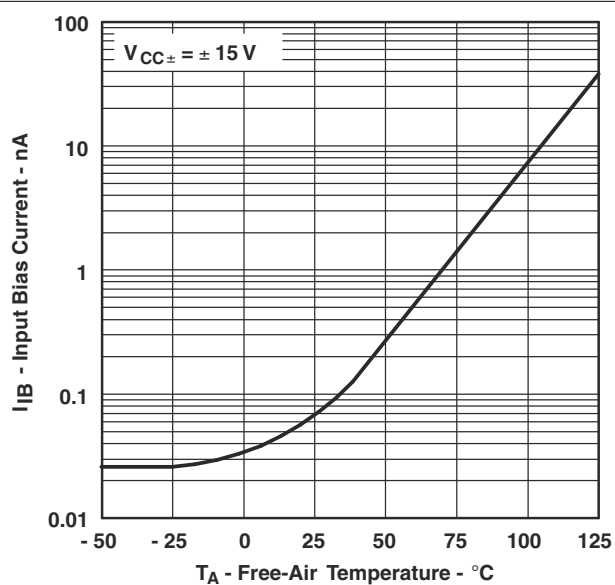

Figure 5-20. Input Bias Current vs Free-Air Temperature, Old Die
- (1) All characteristics are measured under open-loop conditions with zero common-mode voltage, unless otherwise specified.
(2) Full range for T_A is from -40°C to 85°C for I-suffix devices and from -40°C to 125°C for Q-suffix devices.
(3) Input bias currents of an FET-input operational amplifier are normal junction reverse currents, which are temperature sensitive, as shown in Figure 5-20. Use pulse techniques that maintain the junction temperature as close to the ambient temperature as possible.